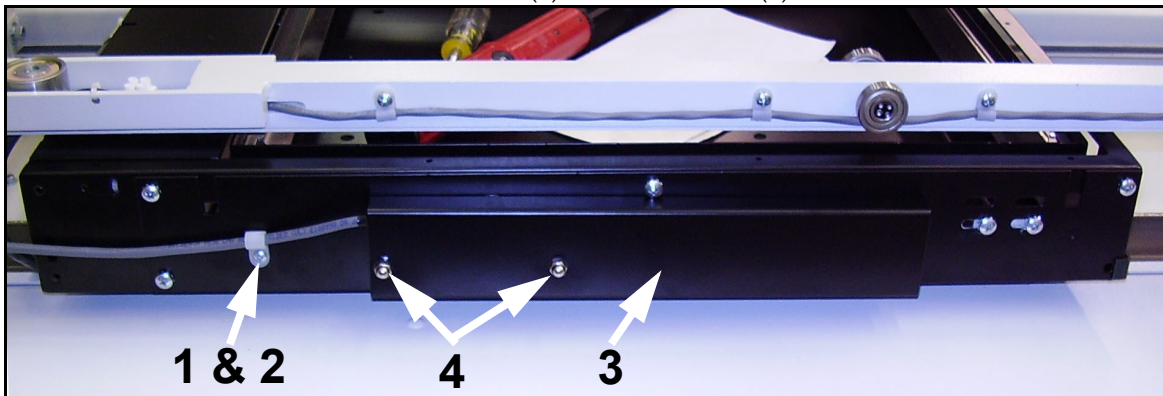

Figure 2-12. Clamp & Cover
- 25** Secure the internal cable with p-clamp & screw (1 & 2 in Figure 2-12).
- 26** Reattach the cover (3) with two nuts (4).